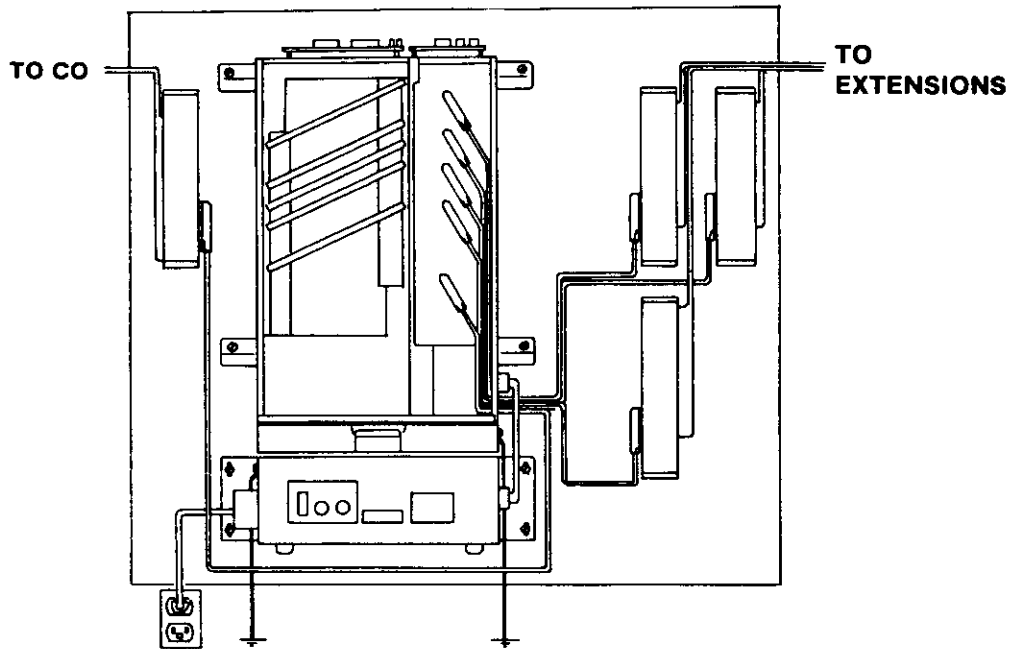

FIGURE 4-1 INSTALLATION LAYOUT
d. Figure 4-1 illustrates the recommended installation environment.